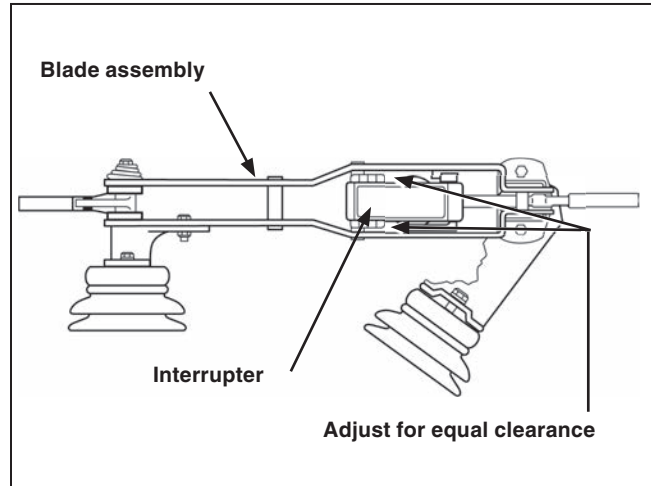

Figure 39. Blade assembly in the fully Closed position.
- The interrupter must lie in a plane parallel to the sweep of the blades, and the blades must pass over the interrupter with approximately equal clearance on both sides. See Figure 39.